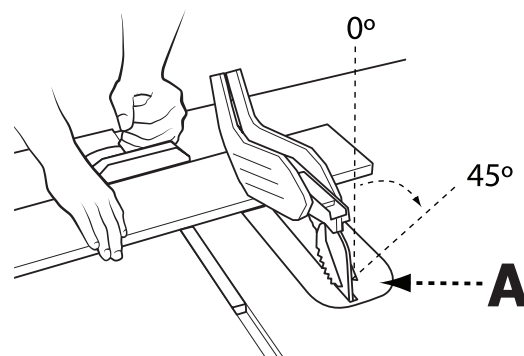

Figure 24
Bevel crosscutting is the same as crosscutting except the bevel angle (A) is set to an angle other than 0° . When making a bevel crosscut, place the miter gauge in the right miter slot so that the blade is tilted away from the gauge and hands (Fig. 24).